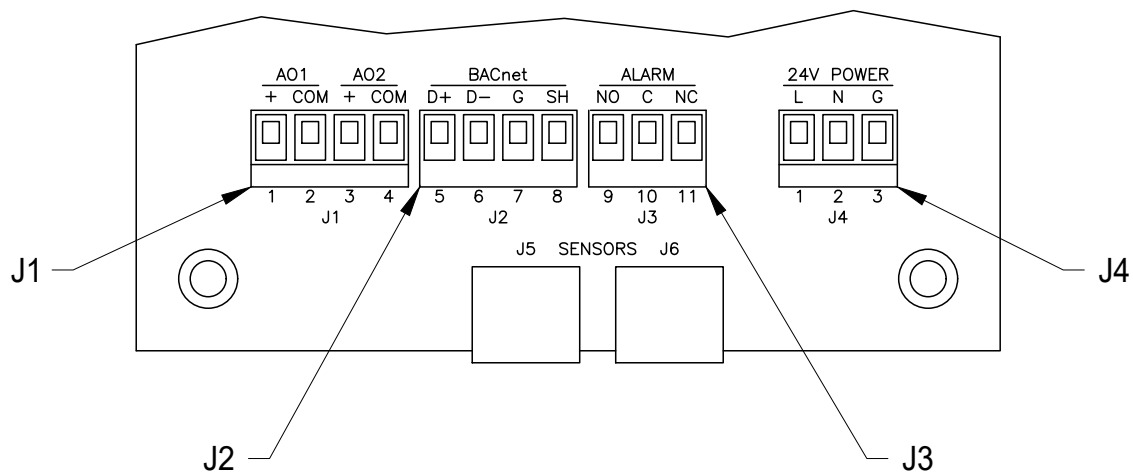

Figure 6
- **WIRING NOTES.** Two conduit openings are provided on the bottom of the transmitter enclosure for power and signal wiring. See Figure 11. AMC recommends power wiring be 18awg to 14awg (max), and signal wiring be 22awg to 14awg (max). No more than two wires should be connected to an individual terminal. For ease in making connections, the power and signal terminals are removable by pulling the terminal strip straight up and off the circuit board. Once the wiring has been completed, replace the terminal strip by aligning with receptacle and pressing firmly. See Figure 6 for locations of field wiring terminal strips.
- **NETWORK COMMUNICATION,** Terminal strip J2, terminals 5 (D+), 6 (D-), 7 (G) & 8 (SH).
- **ALARM OUTPUT,** Terminal strip J3, terminals 9 (NO), 10 (C) & 11 (NC).